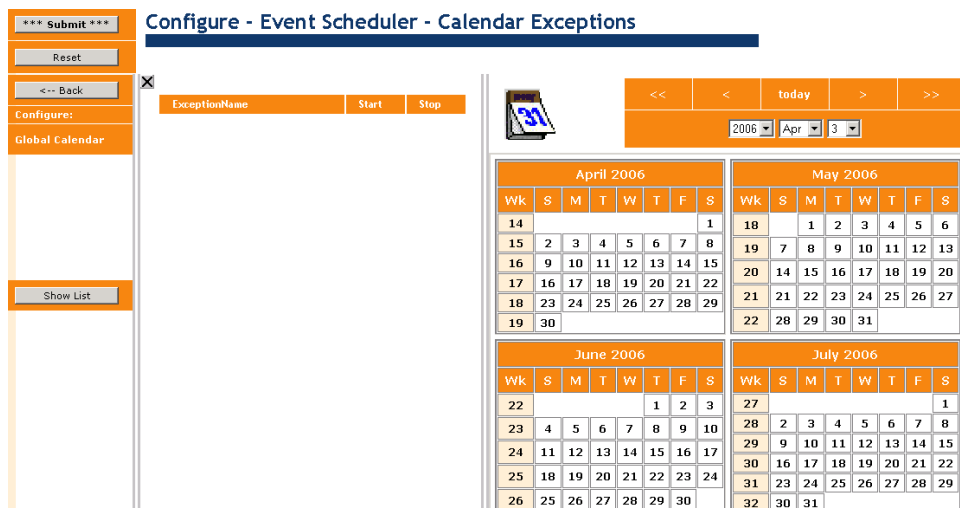

Figure 6.11 Configure – Event Scheduler –Calendar Exceptions Web Page
- From the **Configure – Event Scheduler – Main** Web page, click the Event Calendar icon. This opens the **Configure – Event Scheduler – Calendar Exceptions** Web page shown in Figure 6.11.